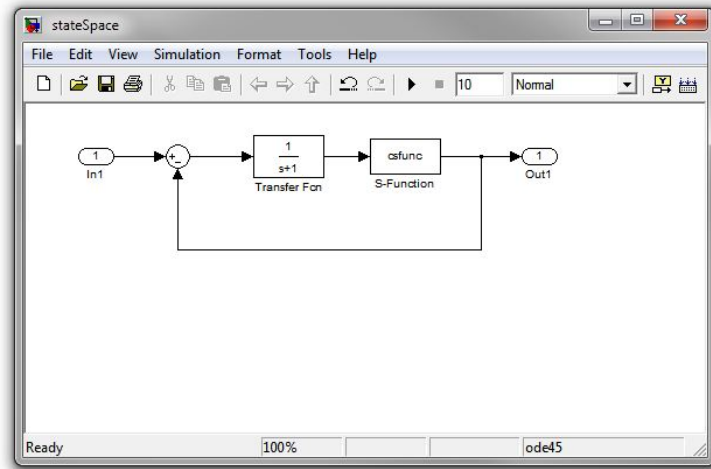

Figure 6: Modified Simulink model of the black box.
5. At any time, you can add blocks to the model that may help with identifying the system. Just remember to save before you run the GUI. For example, you can add a controller and make it a closed-loop system as seen in Figure 6.